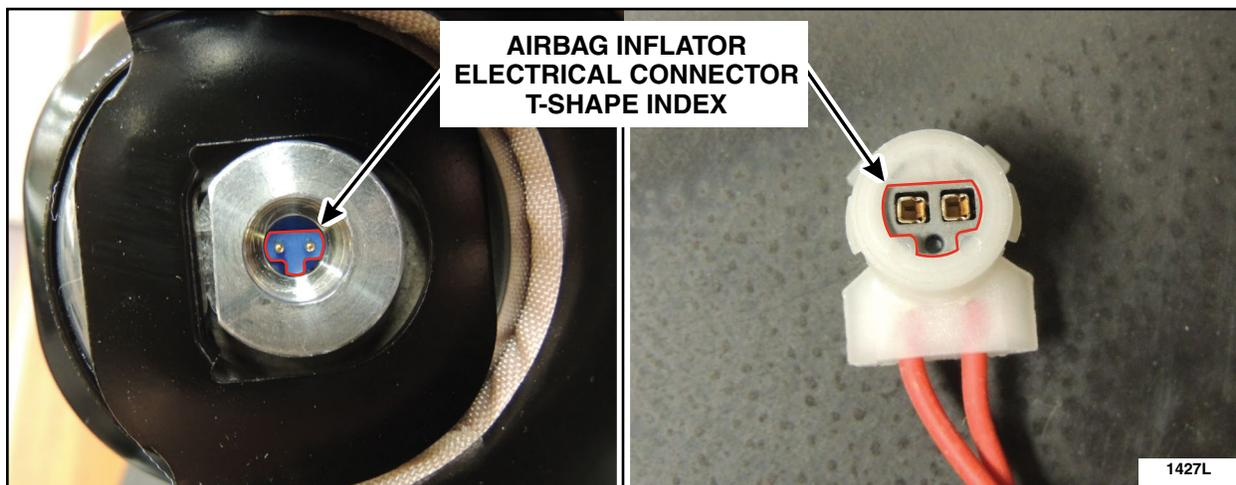

FIGURE 5
8. Connect the *new* wiring harness to both sides of the passenger airbag inflator. See Figure 5.